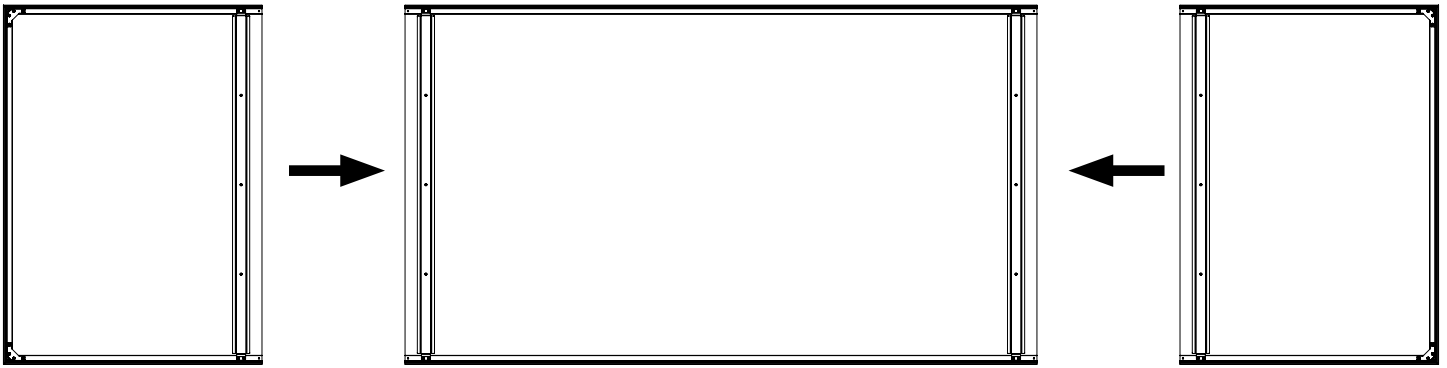
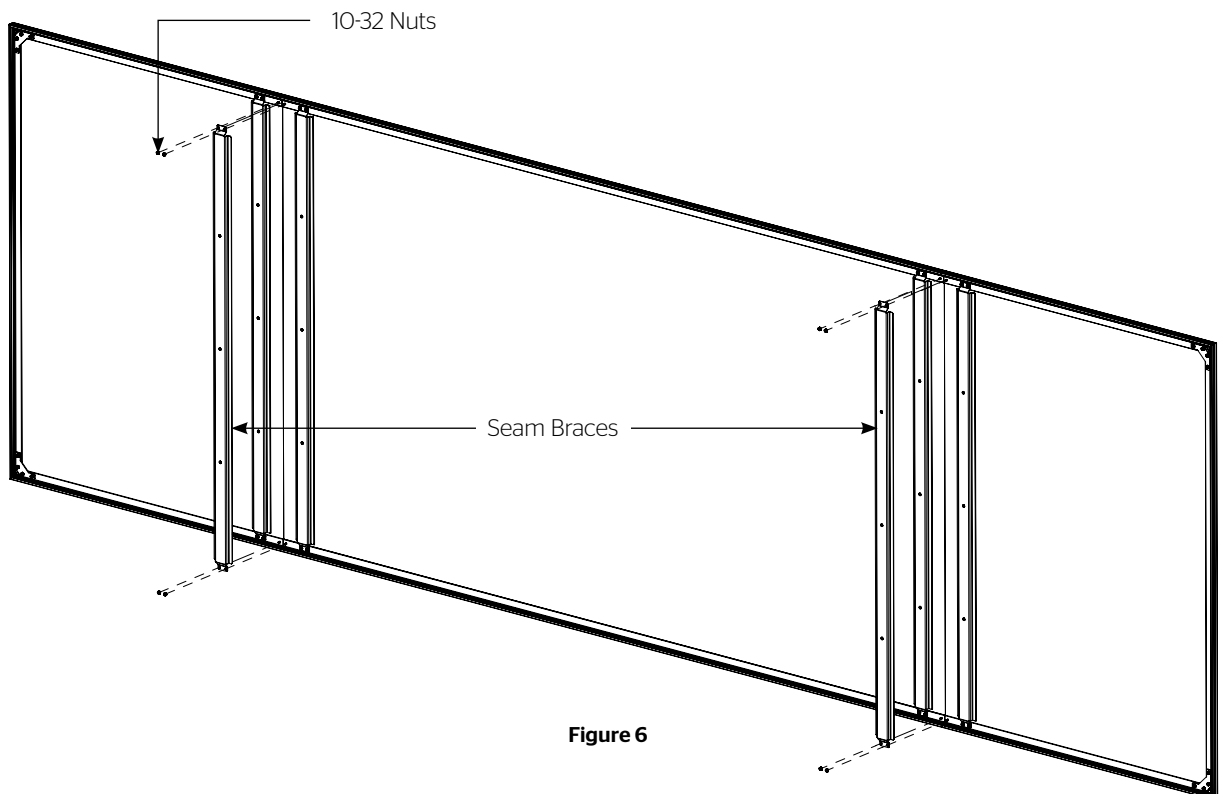

Figure 5
Figure 6
2. Slide all three panels together, aligning the both the top and bottom frames (Figure 5).
3. Find (1) seam brace and remove the release liner from both strips of adhesive tape.
5. Use $\frac{3}{8}$ " open wrench or socket driver and (4) 10-32 nuts to attach seam brace onto the studs on the top and bottom of screen frame at the panel seam. Tighten all four nuts once attached to the frame (Figure 6).